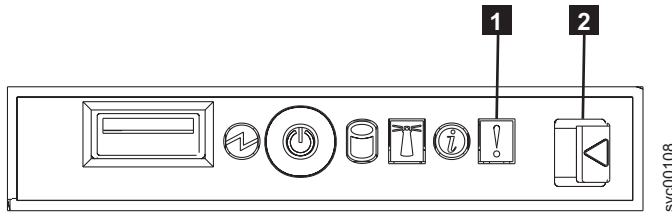

Figure 218. SAN Volume Controller 2145-8F4 operator-information panel
5. Press the operator-information panel release latch (**2** in Figure 218) and slide the operator-information panel away from the SAN Volume Controller 2145-8F2.